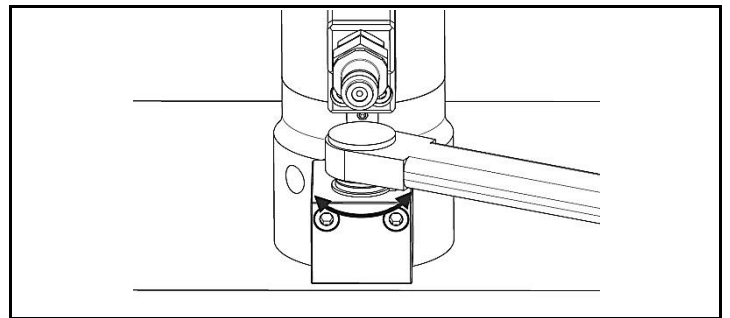

Fig. 2.5 Check socket engagement with application
**NOTICE** If necessary use a 1/2"/ 13mm or 3/8"/ 10mm square male square ratchet wrench to rotate the gearbox input drive clockwise to allow the socket to drop down around the nut. (Fig. 2.5)